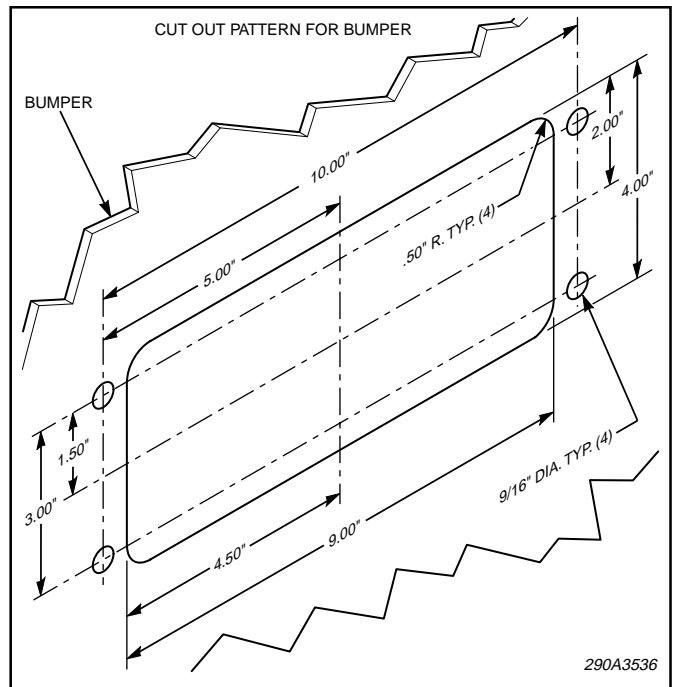

Figure 1.
2. Using figure 1 as a guide, drill the four mounting holes and cut the opening in the bumper at the selected mounting location.